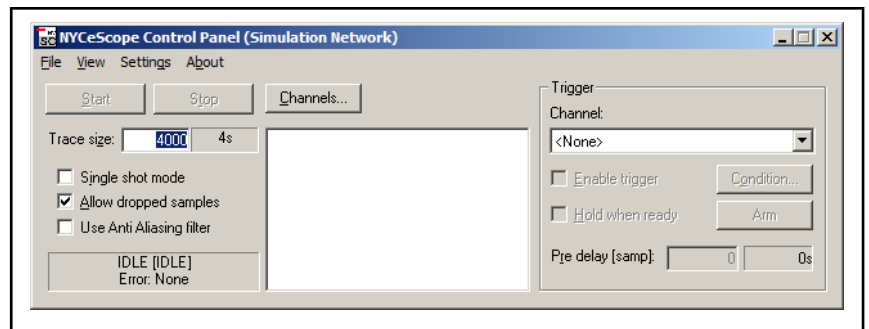
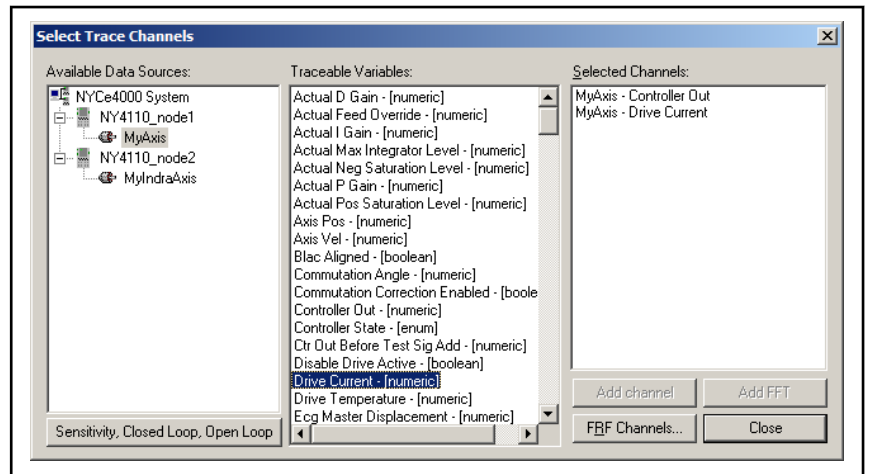

Fig. 4-50: NYCeScope - selecting channels
Fig. 4-51: NYCeScope - selecting variables
2. Start the NYCeScope tool, click the "Channels" button (see fig. 4-50 "NYCeScope - selecting channels" on page 177) and select the channels "Controller Out" and "Drive Current" of the MyAxis axis (see fig. 4-51 "NYCeScope - selecting variables" on page 177). Then click the "Close" button.